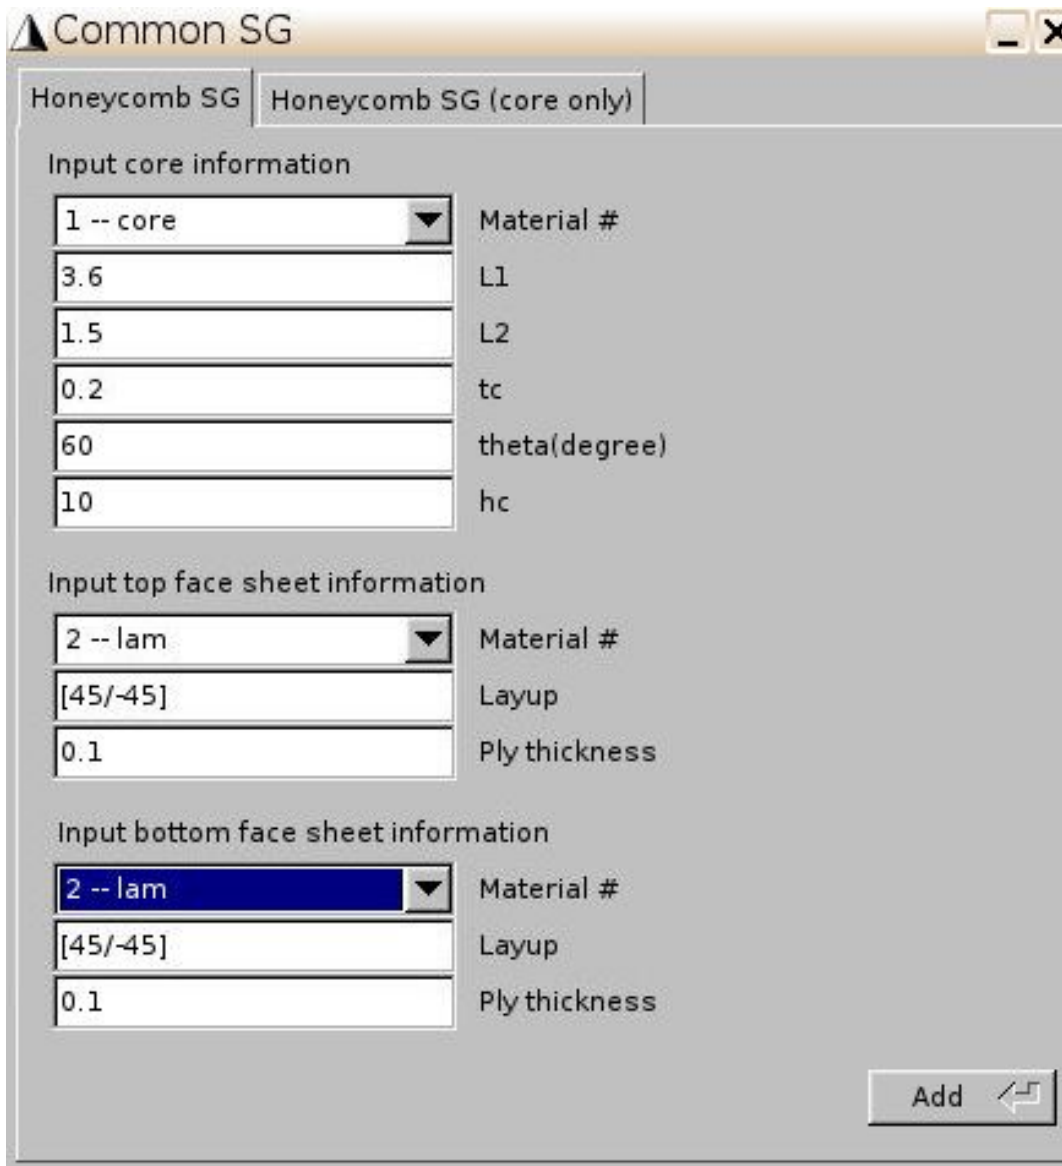

Fig. 3
* Click Geometry->Common SG-> 3D SG->Honeycomb. Select the materials for core and skim as shown in Fig. 3.